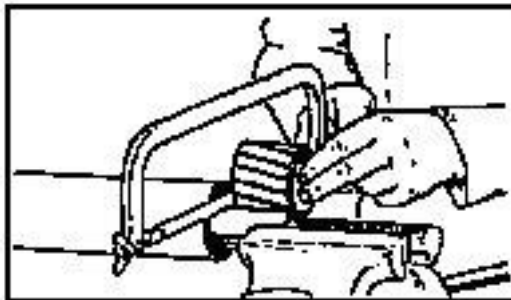

Fig. 19: Saw off the profile tube
6. Saw off the profile tube (see Fig. 19).